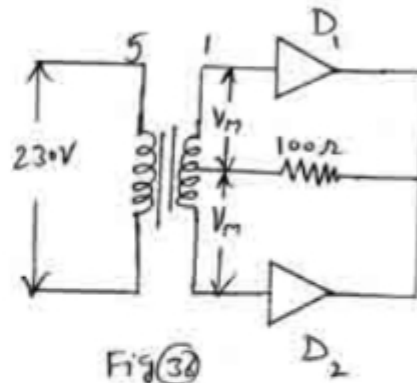

Fig 30
30) In the Centre-tap circuit shown in fig 30, Find